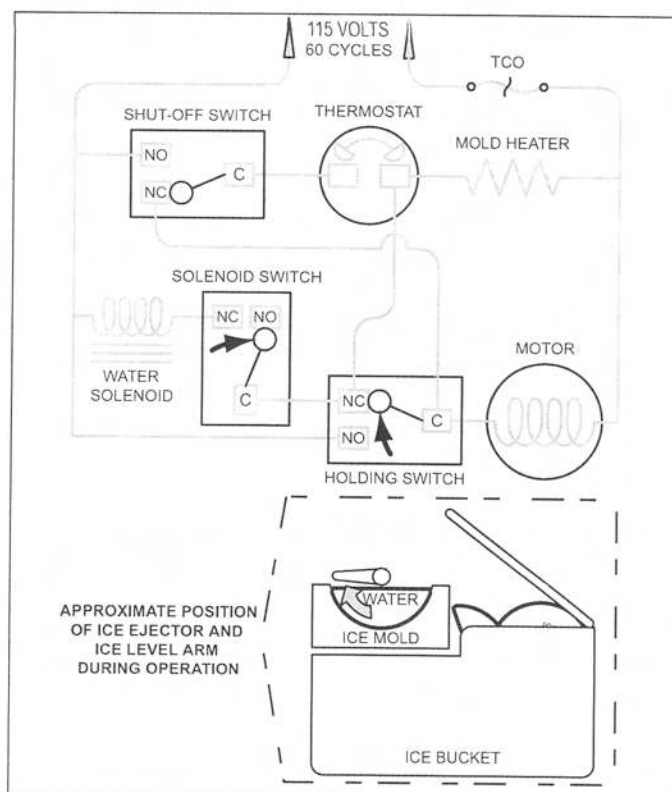

Figure 6-11. End of Ice Making Cycle
**End of Ice making Cycle (See Figure 6-11)**